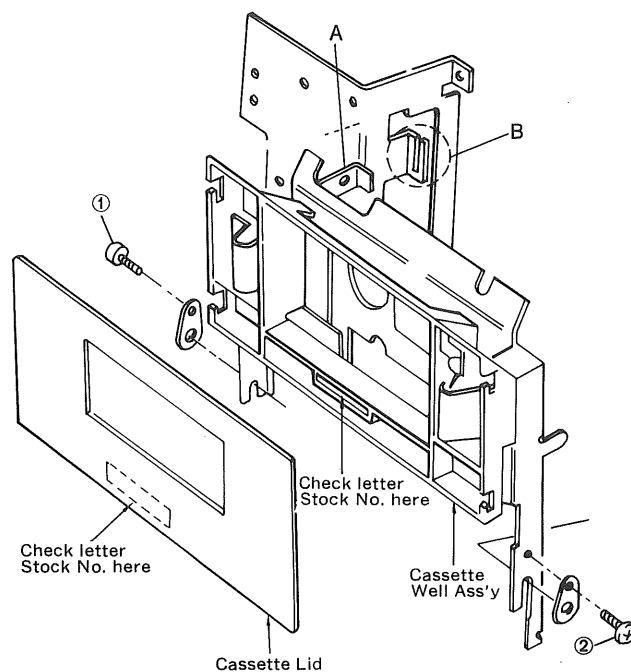

Fig. 9-2 Type A Cassette well & Cassette lid
9-2. Replacement of Cassette Well Ass'y (See Fig. 9-2)
2. Remove screws ① and ② on both sides in Fig. 9-2.
3. Move up the retainer (A), then release it from (B).